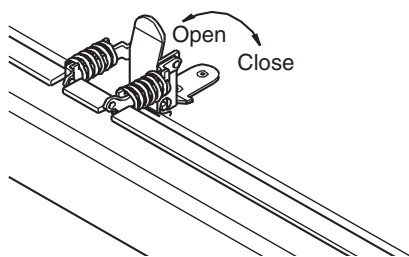

Figure 17 - Spring Latches
3. Undo latches located on top and bottom of firebox (see Figure 17). Carefully swing door to the left. The glass door is securely mounted to the firebox with 5 screws.